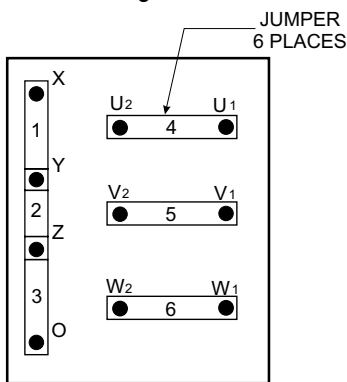

Figure 26. Voltage Change-Over Board 240V Configuration
1. Jumper the voltage change-over board for 240V operation as shown in Figure 26
1. Make sure the voltage change-over board is jumpered for 240V operation as shown in Figure 26.